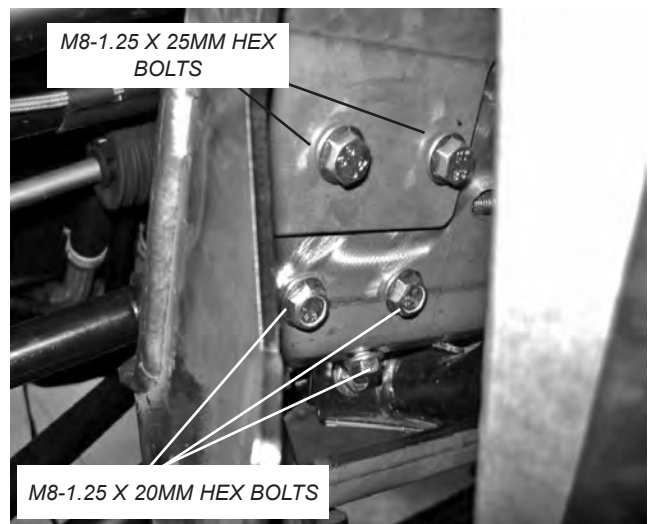

Figure 8
9. Once the lower tabs are secured attach the end supports (A2, A3) to the support plate (A1) using four M8-1.25 x 20mm flanged hex bolts (B4) and four M8-1.25 flanged locking hex nuts (B5) on the four lower attachment points. Use the M8-1.25 x 25mm flanged hex bolts (B7) and M8-1.25 flanged locking hex nuts (B5) on the top two attachment points; see figure 8. Do not tighten these fasteners at this time.